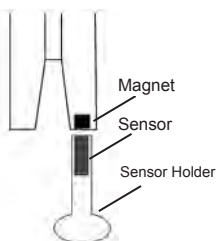

Fig 6
Refer to the Overview Notes on page 5 before starting installation. It is not possible to set out a single installation method for horizontal windlasses. The sensor may be fitted inside the windlass or you may need a sensor holder (Part #9110). See Fig 6 below. Often the sensor and magnet can only be fitted by the windlass manufacturer.
**Sensor Position:** The AutoAnchor sensor may be fitted using a sensor holder fixed to the deck to sit under the chainwheel (See Fig 6). The AutoAnchor sensor holder (#9110) is not included in the standard kit. Check with your supplier if you need this. The AA black sensor and the reed switch sensor must be fitted directly in line with the magnet in the chainwheel. The AA grey sensor may be fitted up to 20mm out of alignment. The gap between the sensor and magnet must be as per the table below.